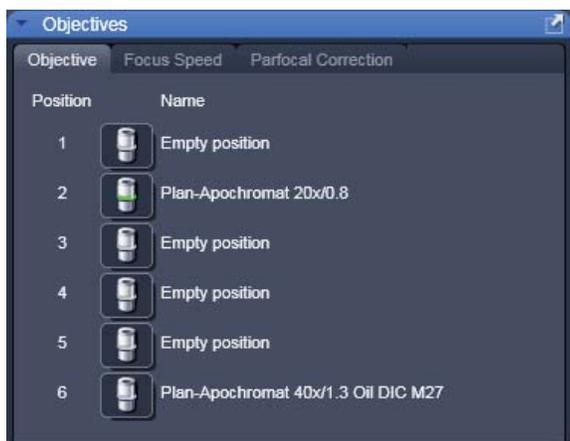

Fig. 4-131 Objectives tool
(1) Change Objective
- A list of available objectives is displayed with position and name (Fig. 4-131).